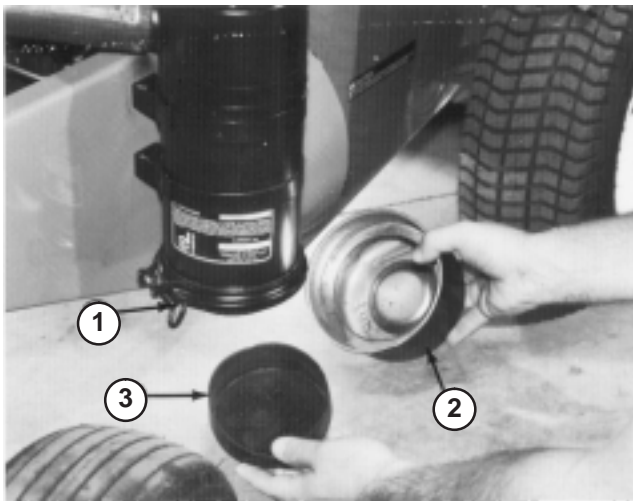

Figure 27
1. Loosen thumb screw until dust cup and baffle can be removed (Fig. 27). Separate dust cup and baffle (Fig. 27).